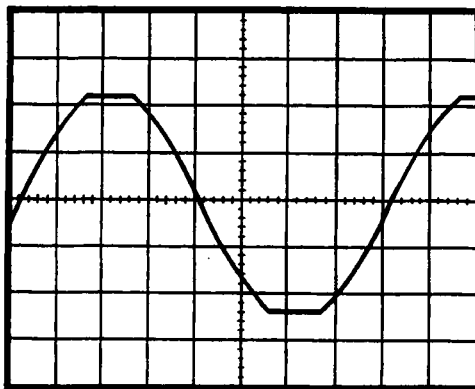

Figure 2-36
20. Make sure the TRIGGER COUPLING control is set to the AUTO position. You should now have a presentation similar to the one shown in Figure 2-36.